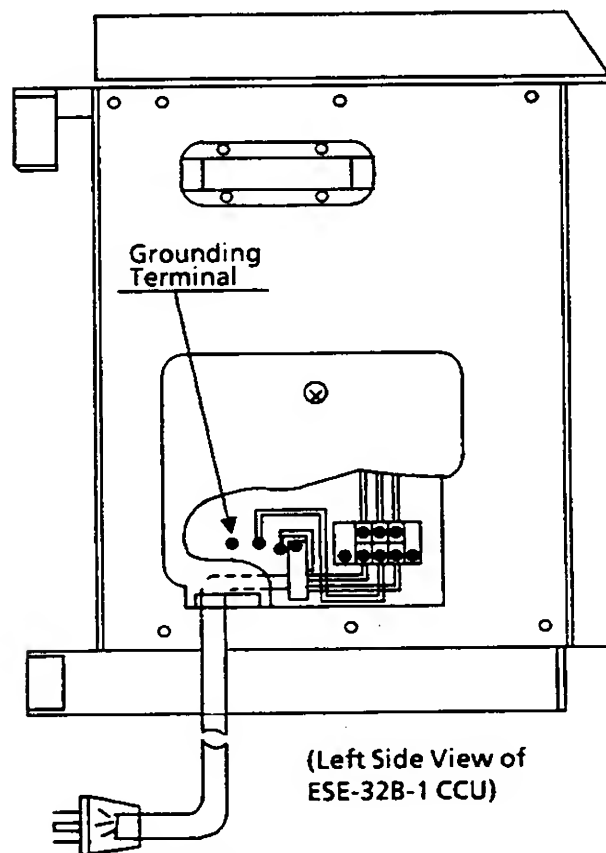

Figure 220-3 CCU Grounding
3. Where a ground other than conduit ground is used, a grounding terminal is provided on the ESE-32B-1 CCU as shown in Figure 220-3.